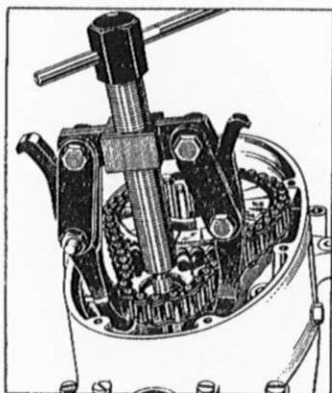

Fig. 27
After releasing circlips remove the clutch pressure plate (3) together with cups (6), springs (5) and washers (7). By means of washer straightener M 15 straighten the washer (9) under the nut (10) of the fixed plate (2). With pipe wrench no. 14 unscrew the nut. (10) (fig. 26) and with no. 19 spanner unscrew the nut of the primary wheel. With help of N 9 puller loosen the chain wheel (14) from the crankshaft (fig. 27). The primary wheel, chain and both cork plates (1) and driven plate are to be removed jointly.